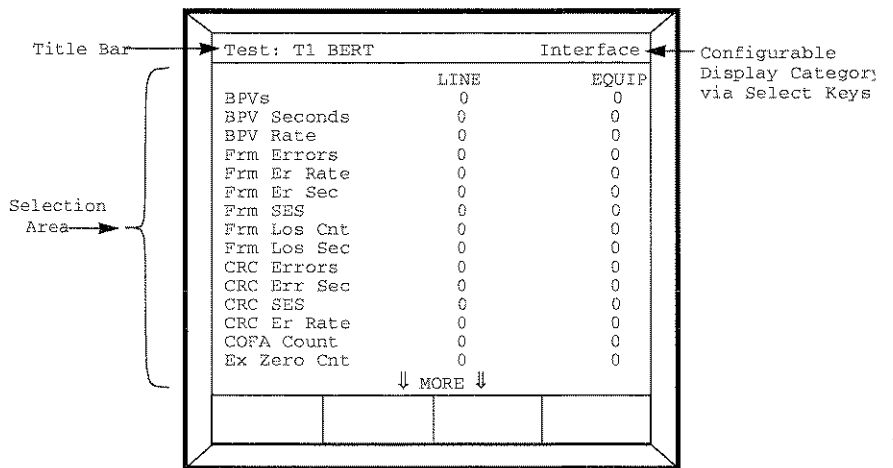
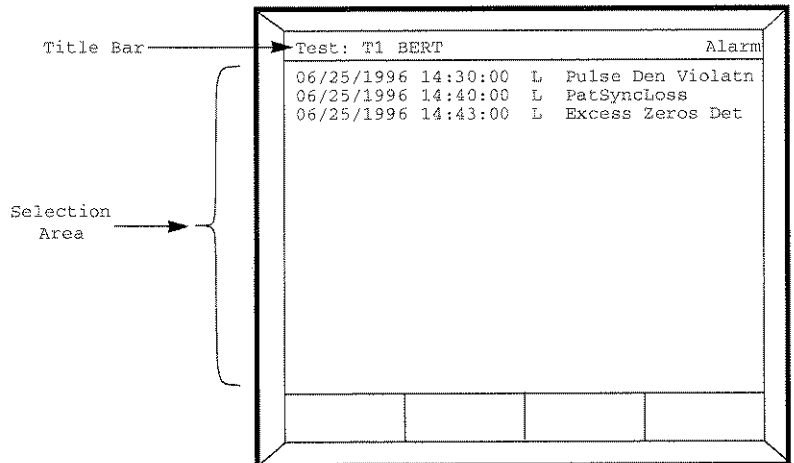

Figure 2-4 Typical Interface Category Results Page
Figure 2-5 Typical Alarms Category Results Page
The RESULTS III screen is used to display results for each of the Results Categories (i.e. Summary, Interface, Test Type, Signal, Time, and Performance). In addition, an Alarms category is also provided which lists the date and time the alarm occurred, as well as where the alarm occurred (i.e. the **LINE (L)** or **EQUIPMENT (E)** side) where applicable. A typical Interface Category results page is shown in Figure 2-4 and a typical Alarms Category results page is shown in Figure 2-5.